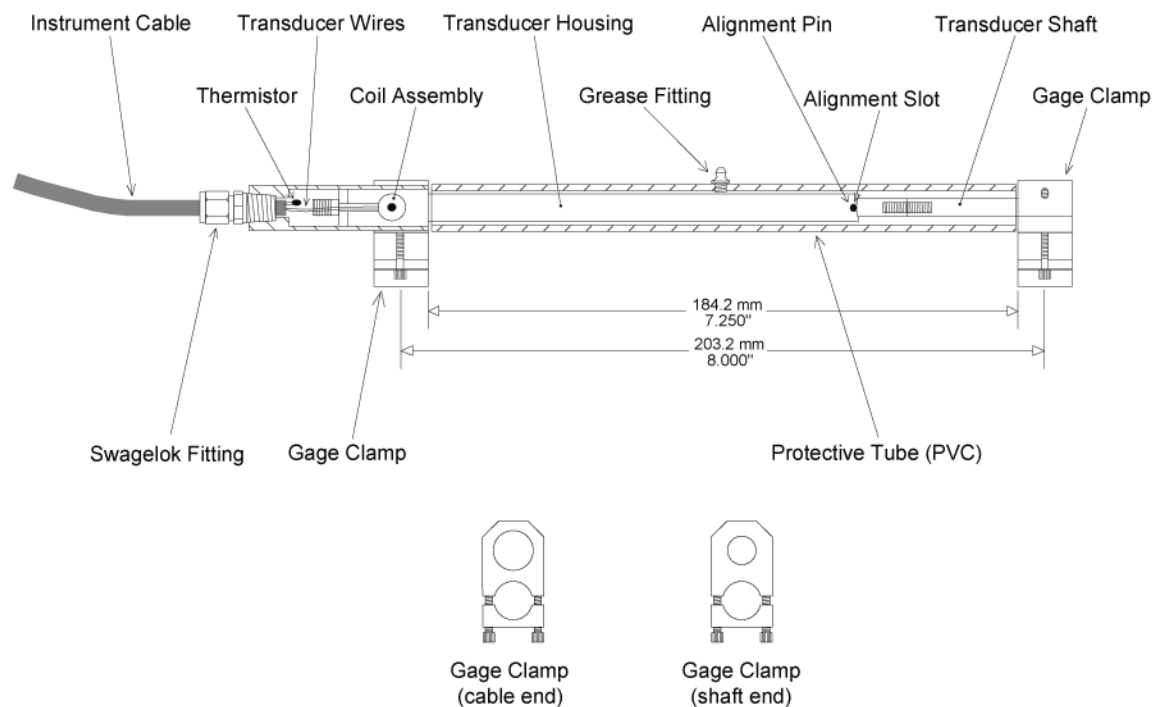

Figure 1 - Model 4410 Vibrating Wire Strandmeter
5. For strands that are to be embedded in concrete, fill the PVC tube with grease. A ¼-28 threaded hole (see Figure 1) is provided which will accept a standard grease fitting. Screw the fitting into the hole, fill with grease and then remove the fitting.